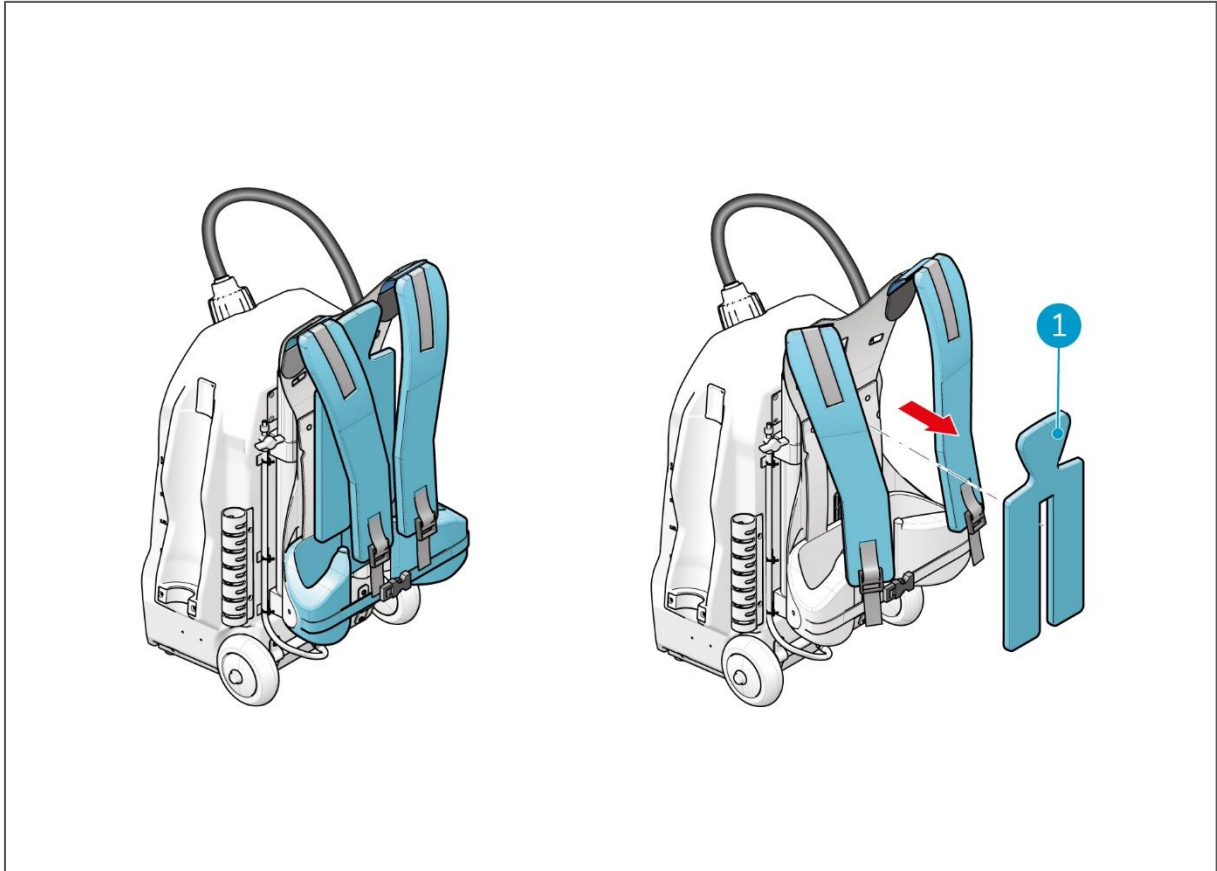

Figure 8
1. Remove the padding (Figure 8, pos 1) that is attached to the back plate with Velcro.